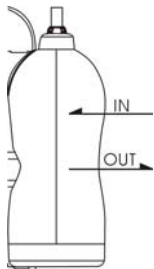

Figure 3.5.12
3.5.12 Taking out and Placing Probe (As figure 3.5.12)